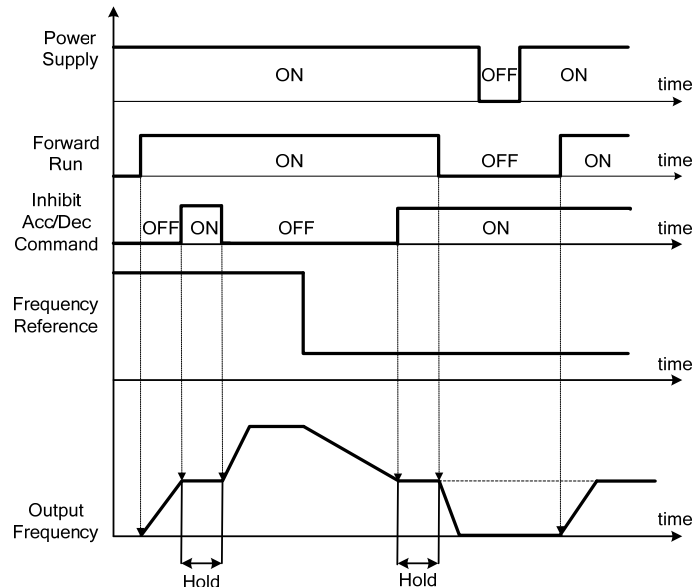

Figure 4.3.21 Inhibit acceleration / deceleration command operation
(12) Acceleration/deceleration 1 selection (03-0X=10)
(13) Inhibit Acceleration/deceleration command (03-0X=11)
- Operation of inhibit Acceleration/deceleration function, please refer figure 4.3.21 .